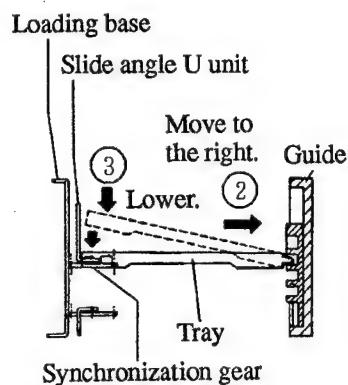

Figure 12
3. With Tray 1 at a slight angle as indicated by the dotted lines in Figure 12, insert Tray 1 until the slider and Tray 1 screw holes are lined up, being careful that the slider does not move to the rear.